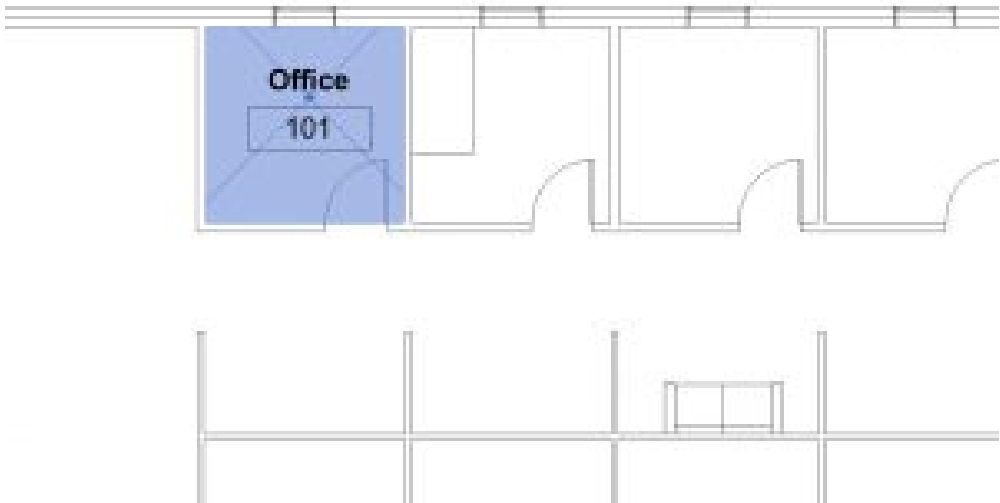

Figure 8.2 Placed room tag shown in the Level 1 view
4. Click to place a room as shown in Figure 8.2
6. In the Properties Palette change the Number to 101 and the Name to Office as shown in Figure 8.2